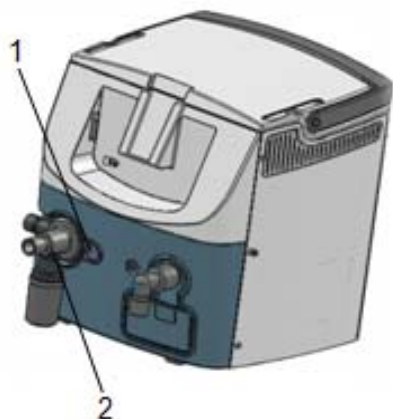

Figure 8-9
- a. Press the button (Part 1 in Figure 8-9);
- b. Pull out the expiratory valve core component (Part 2 in Figure 8-9);